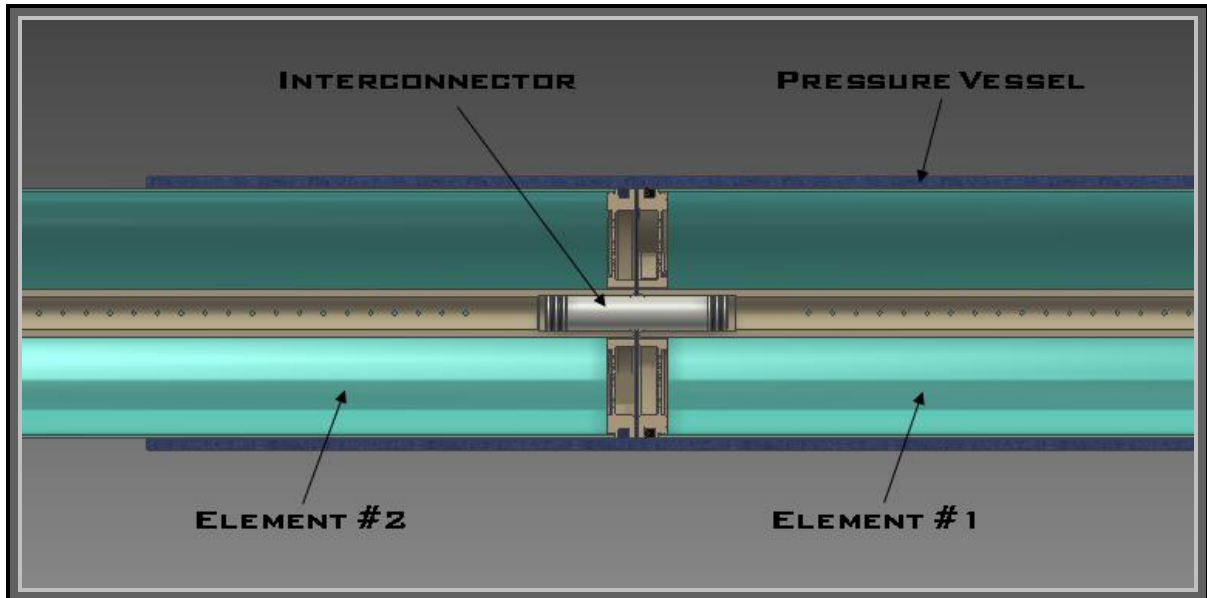

Figure 2 - Interconnector Configuration Between Two RO Elements
7. Connect next element to interconnector and push both elements into pressure vessel up to three-quarters of the length of the element and again remove the plastic bag. **Caution:** Ensure the weight of the outboard element is not supported by the interconnector by supporting the element if necessary – Figure 2.